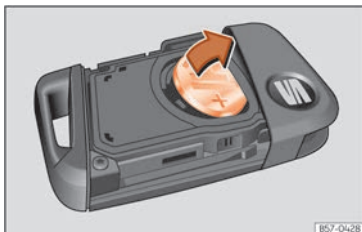

Fig. 77 Vehicle key: removing the battery.
- Lever the battery out of its compartment »» Fig. 77.
- Fit a new button battery into the compartment »» ①.